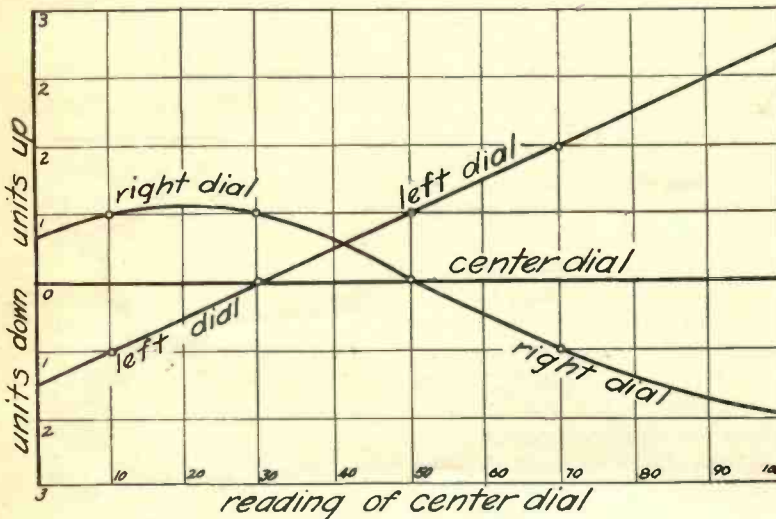

Fig. 3. This Way of Recording Differences in Dial Readings Helps You to Pick Up New Stations Which You Have Not Heard.
In making a log or record of stations already heard the best way is undoubtedly to write down the call letters followed by the readings of the three dials. This is the way which it is universally done. However, such a record does not help so much in picking up new stations which you have never heard before. For such a case the method shown in Fig. 3 is probably the most satisfactory. Here we have plotted on the horizontal scale the readings of the middle dial. The vertical heights show the difference in readings for the two end adjustments.
on the diagram, Fig. 3, by putting a dot at one space below the line for the left dial and one above the line for the right one. Now pick up a station at 30 on the center dial. Let us assume that the left also reads 30, while the right is 31. This information is similarly recorded on the curve.
Similar readings are taken at 50, 60, and points above. When the curve is completed it allows us to make the corrections of the two end dials at a glance. For instance looking at the curve, how should we tune when the middle dial reads 20? Glancing at Fig. 3, you can see that the left hand dial should be set half a division low (19½), while the upper one must be turned one division higher (21). In this manner it is much easier to do fine tuning.